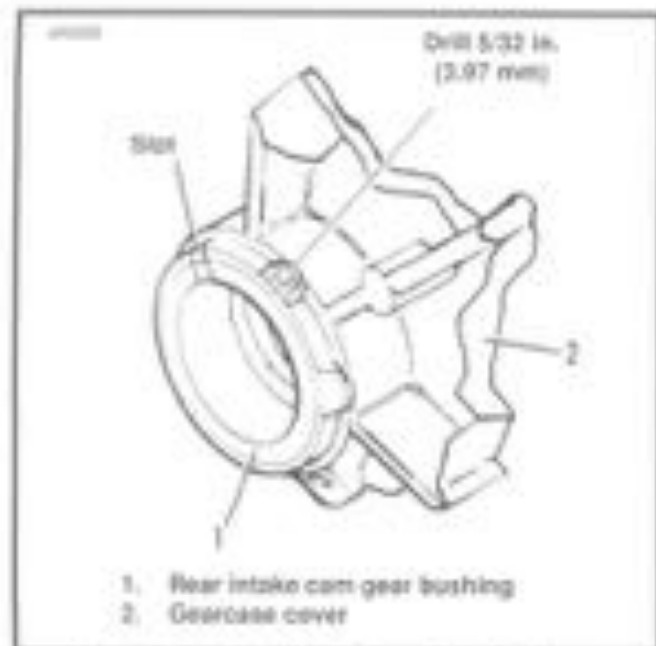

Figure 3-65. Rear Intake Cam Gear Bushing Installed in Gearcase Cover
2. See Figure 3-65. Position bushing (1) over bore of gearcase cover (2) with chamfered edge downward and slot upward. Align slot in bushing with slot in gearcase cover boss. Press bushing into cover bore until bushing is flush with cover boss.